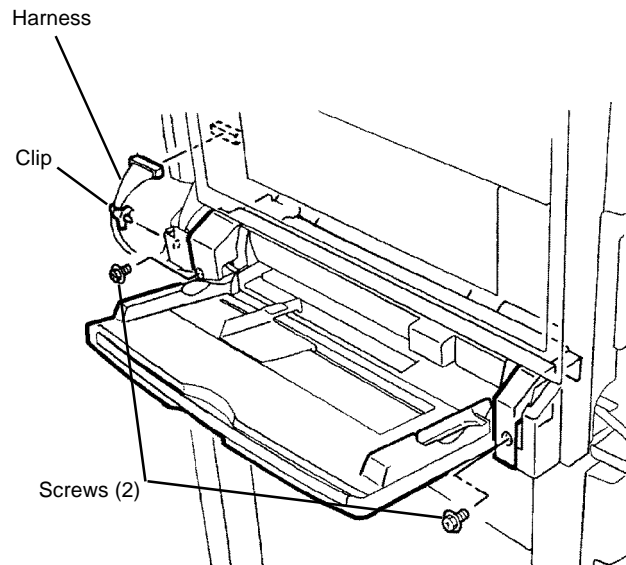

Figure 1 Removing Tray 5
5. Remove Tray 5 (Figure 1).
- d. Remove Screws (2).